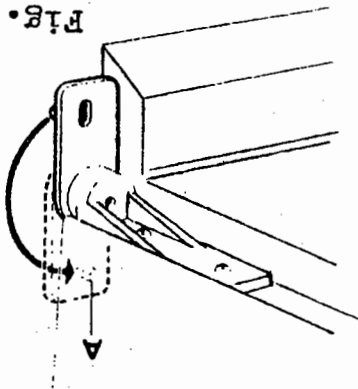

Fig. 18
- a. Push spring retainer pin (A) inwards with a pin and remove freezer door.
- c. Place new freezer door in closed position, one side at a time, making sure the cross on spring retainer pin (A) engages with the cross on the hinge plate (C).
- d. Turn the spring housing around and up until the small tab (A in fig. 18) snaps into the slot in the body liner.